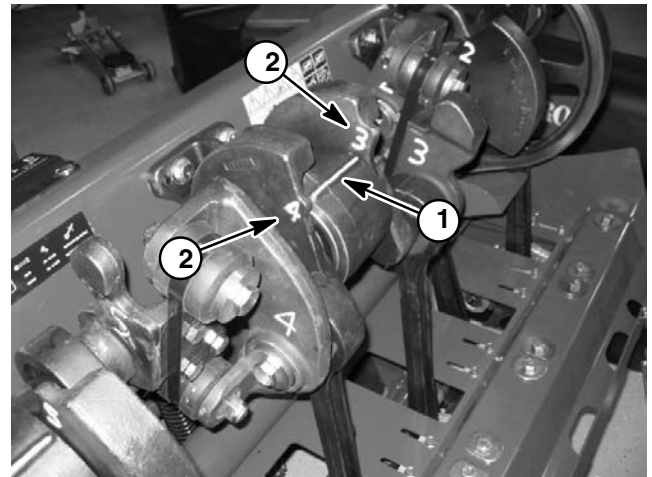

Figure 9
A. Remove cap screw (item 1) and flat washer (item 2) that fasten crankarms together. Take note of alignment of identification number on crankarm with timing mark on bearing housing (Fig. 9).
3. Install crankarms into bearing housing. Make sure that correct identification number on crankarm is aligned with timing mark on bearing housing (Fig. 9).
4. Install cap screw (item 1) and flat washer (item 2) to retain crankarms. Do not fully tighten cap screw.
6. Position bearing housing assembly to coring head frame and secure with four (4) cap screws, eight (8) hardened washers and four (4) lock nuts. Torque fasteners from 70 to 80 ft-lb (95 to 108 N-m).